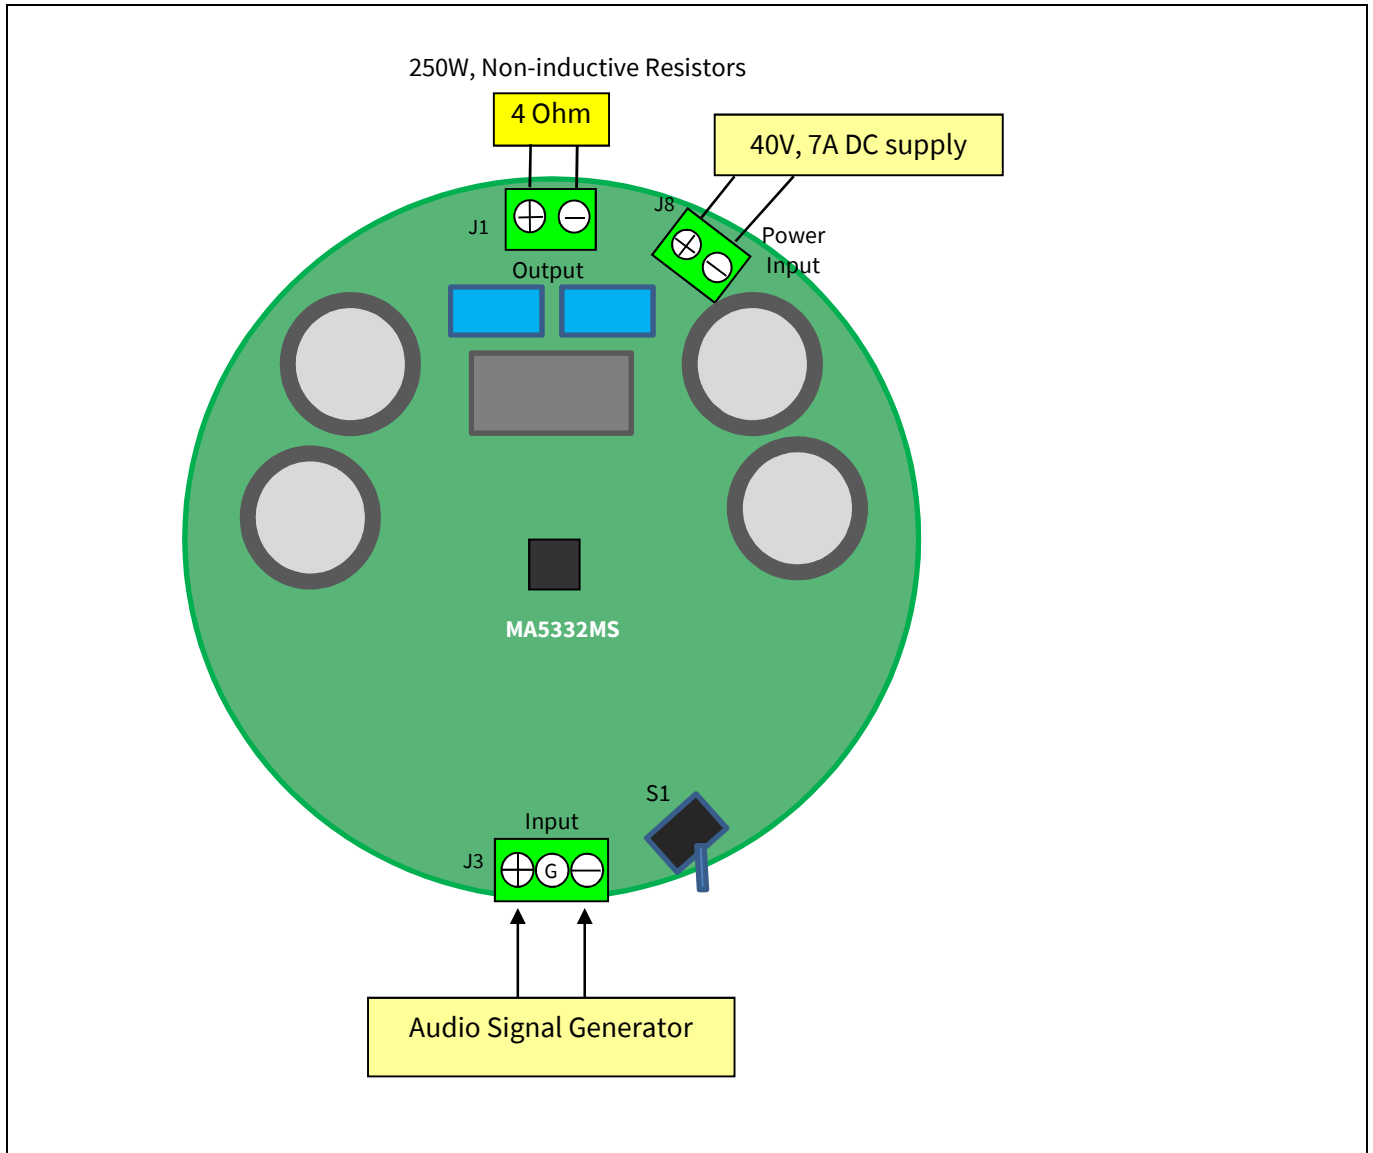

Figure 2 Typical connection connector description
1. Connect 4 Ω 250 W dummy loads to output connector (J1 as shown in Figure 2) and parallel it with the input of the Audio Precision (AP) analyzer.
2. Connect the Audio Signal Generator (ASG) to J3 for analog signal respectively (AP).
5. Connect the power supply to J8, as shown in Figure 2